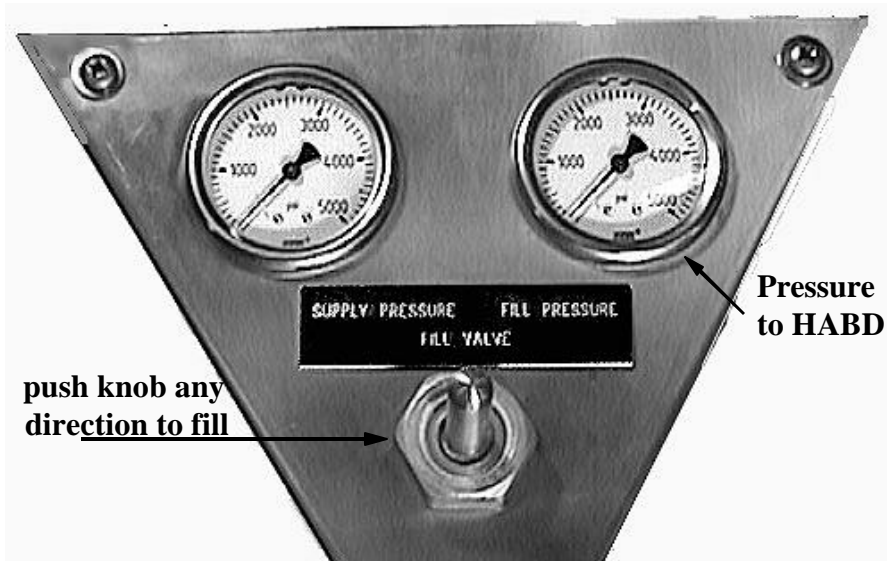

Figure 4-8. Control Panel
- m. To start the fill process, SLOWLY tilt the fill toggle knob on the control panel in any direction. (Figure 4-8.) The further you tilt it, the faster the air is transferred. These fills should be done slowly so that the cylinder does not receive the shock of the air all at once and so that the HABD unit does not heat up excessively (when it cools the pressure will drop and the unit will need to be refilled). Releasing the knob will stop the filling process. Increase the pressure in the HABD by about 500 psi and then allow the unit to stand for several minutes to cool, then repeat this until the HABD is full. **3000 PSI IS FULL!**